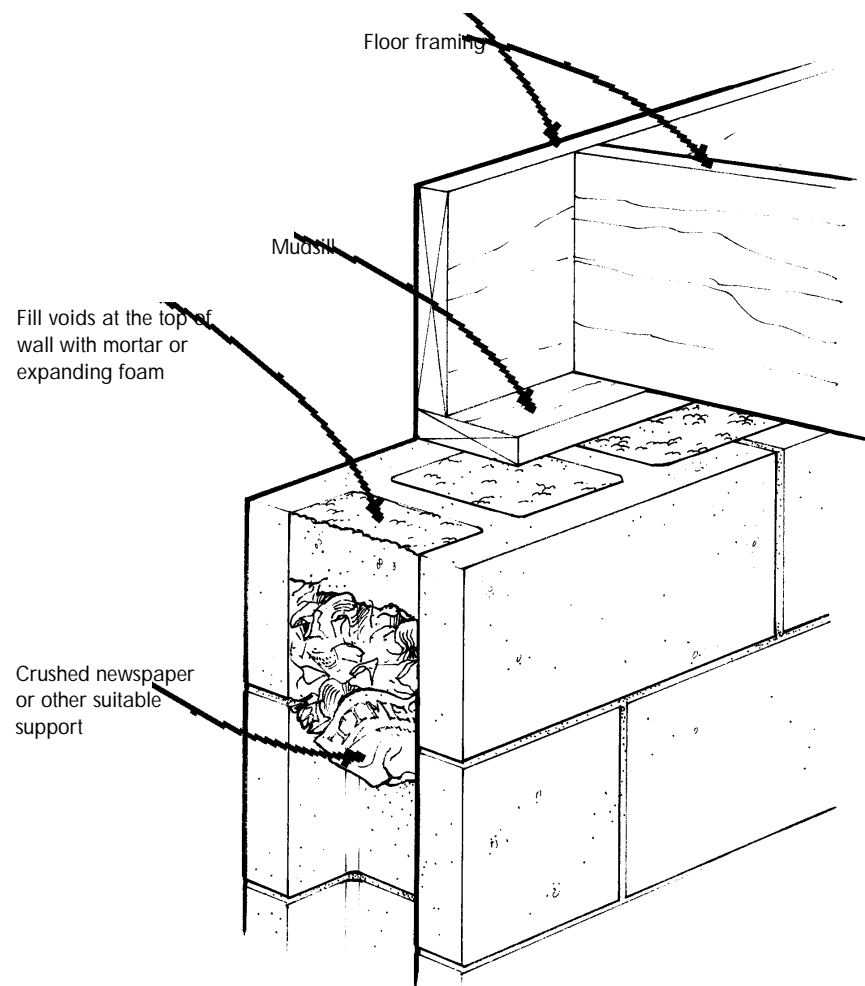

Figure 10: Sealing voids in the top of concrete block walls
- **Voids in concrete block walls** – If there isn't a solid row of block, seal voids in the top of foundation and interior load bearing walls (see **figure 10**).